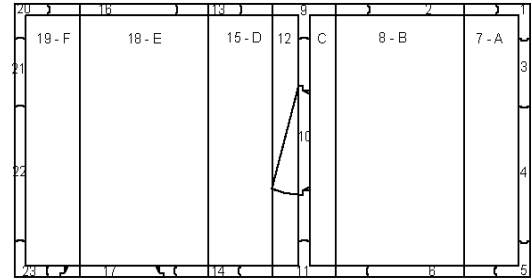

FIGURE 4B - CEILING, FLOOR, AND WALL SECTION LAYOUT
4. Proceed placing wall panels #4, #5, and #6, per the walk-in layout drawing, completely locking the middle camlocks only and half locking the top and bottom camlocks. Ensure that the wall panels are properly aligned to each other and the floor. Lock the remaining camlocks, securing the wall panels to each other first, then to the floor panels (Refer to Figure 4B).
6. Special attention must be given to door panel assembly #10 as it is a partition door section (Refer to Figure 4B). **Be sure the door section is leveled front to back, vertically, and side to side.** Check to ensure the frame opening is square to the door and the door is flush at the top and bottom on the latch side. **Note: The door may not seal or operate correctly if the frame is not level and square.**